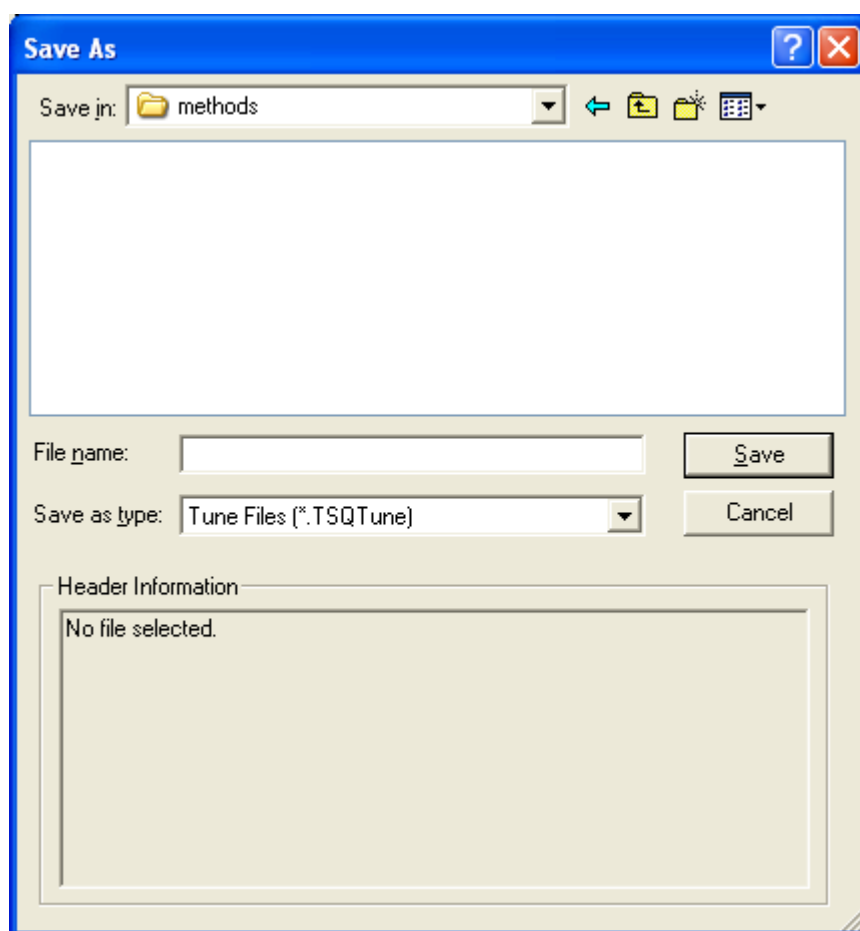

Figure 45. Save As dialog box, showing files in the folder *C:\Xcalibur\methods*
1. Choose **File > Save As** to display the Save As dialog box (Figure 45).